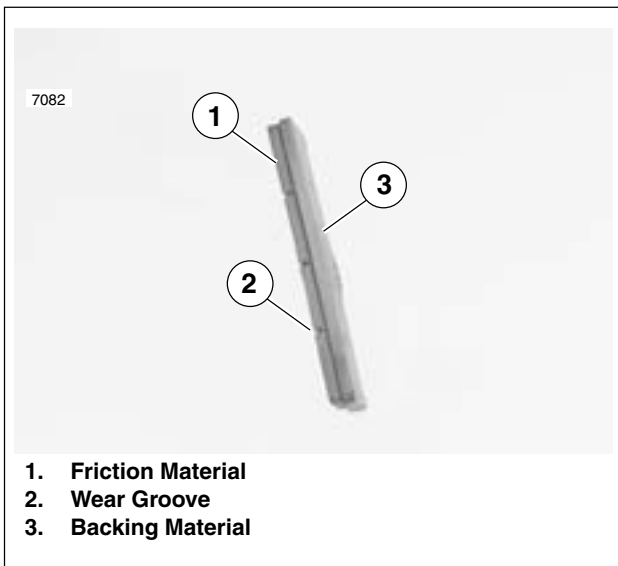

Figure 1-11. Brake Pad Thickness
See Figure 1-11. Inspect brake pads for damage or excessive wear. Replace both pads as a set if friction material (1) of either pad is worn to 0.04 in. (1.0 mm) or less. If this amount of wear occurs, wear grooves (2) will disappear from friction material surface.